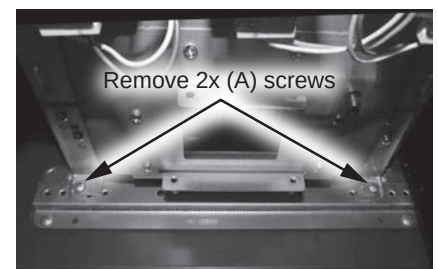
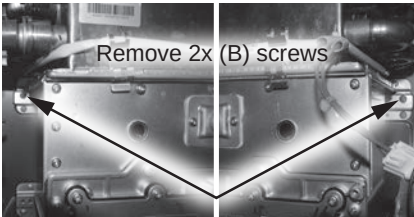

Figure 152 - Removing primary HEX (A) screws
Figure 153 - Removing primary HEX (B) screws
- 44** Locate the bottom horizontal bracket and two (A) screws securing the primary heat exchanger assembly to the backside of the water heater cabinet as shown in Figure 152. Use a 12" magnetized Phillips screwdriver to remove the screws. Place them aside in a safe place for reinstallation.
- 45 Locate the upper horizontal bracket and two (B) screws securing the primary heat exchanger assembly to the backside of the water heater cabinet as shown in Figure 153. Use a 12" magnetized Phillips screwdriver to remove the screws. Place them aside in a safe place for reinstallation.
75 Locate the four primary heat exchanger mounting screws previously removed in **Steps 44 & 45**. Use a 12" magnetized Phillips screwdriver and four screws to secure the heat exchanger to the two horizontal brackets. See Figure 152 & Figure 153.